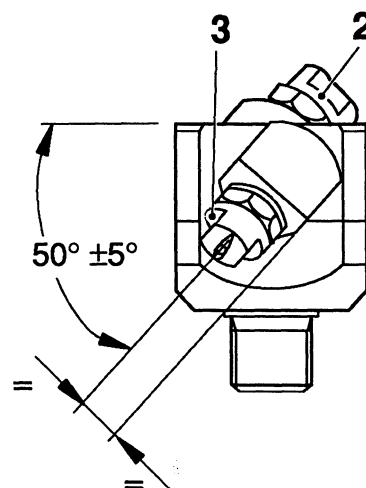

Fig. 2
- Set the opening of the nozzle (3) in parallel with the key handle (4), with the jet direction at $50^\circ \pm 5^\circ$ angle, see fig. 2.